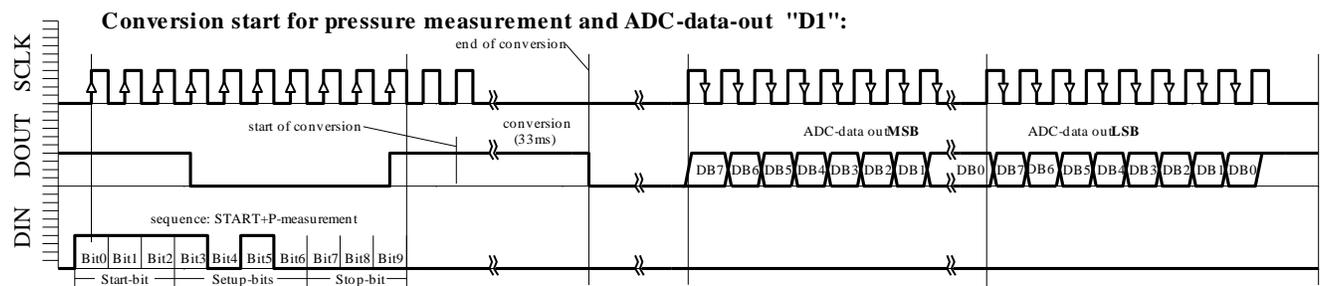

Fig. 6a: D1 ACQUISITION sequence
- Conversion start for pressure measurement and ADC-data-out “D1” (Figure 6a)